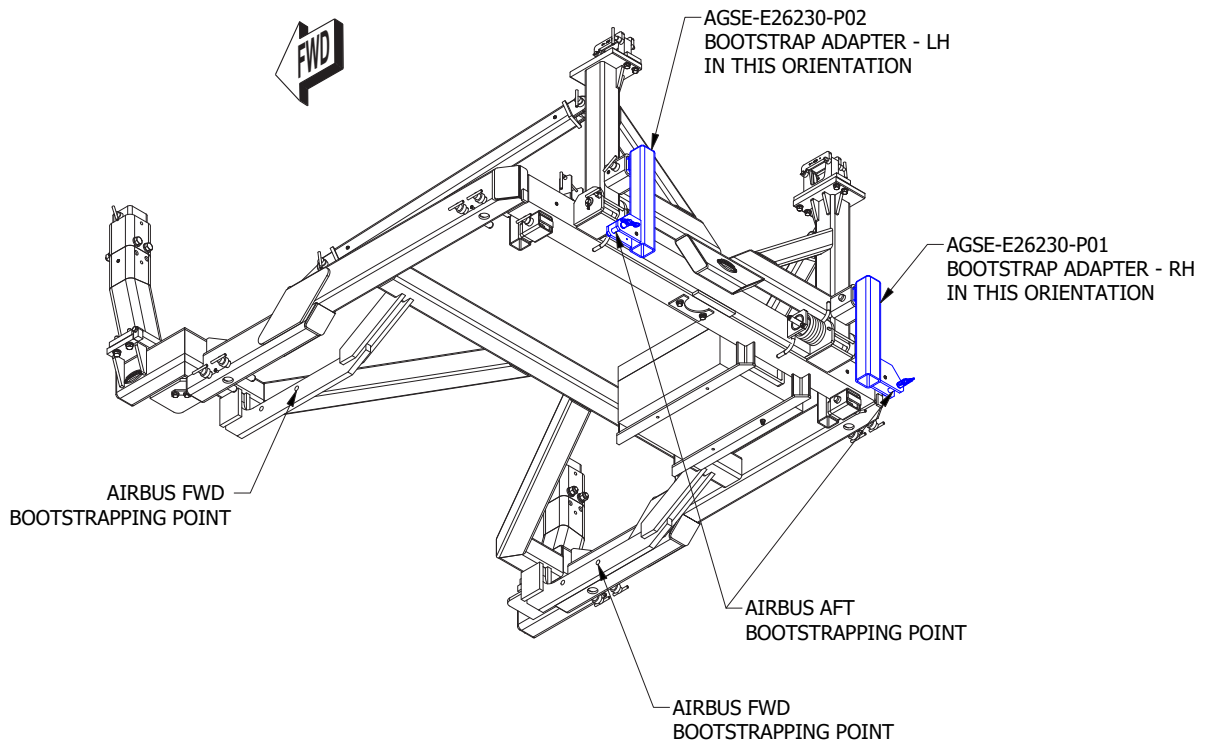

Figure 5.3-3 Airbus Bootstrapping Points
- 10) For Airbus, remove the AFT bootstrap adapters from their storage locations and install them in the deployed positions. (Illustration Figure 5.3-3).